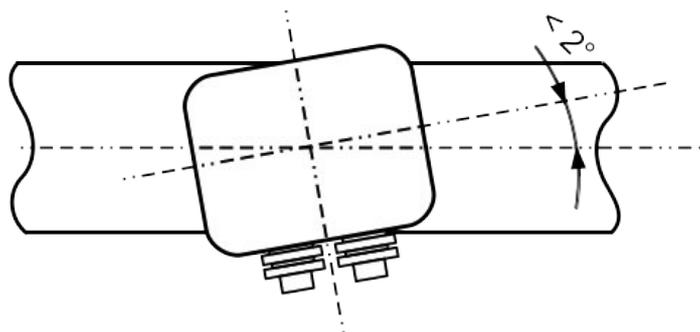

Figure 1: Top view
**Remark:** The angle deviation must be less than  $\pm 2^\circ$  to the perfect position, as shown in Figure 1.